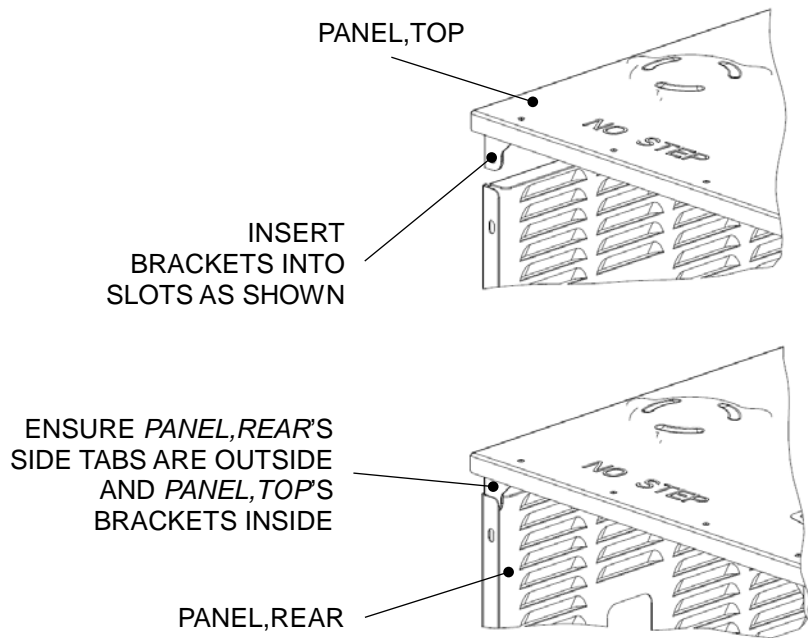

FIGURE 3
4. Install *PANEL, TOP* by inserting rear brackets into upper slots in *PANEL, REAR*. Ensure *PANEL, TOP* wraps over *PANEL, GENERATOR END*, *PANEL, REAR* and *PANEL, BELT END* when fully installed (see **FIGURE 3**).